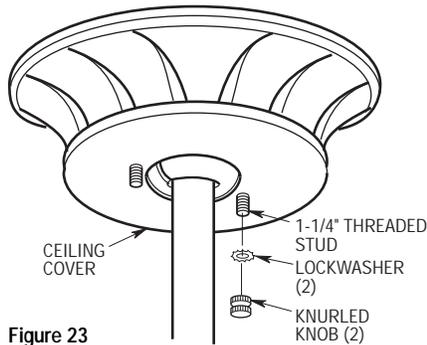

Figure 23
- 7. Slide the receiver up and over the hanger bracket. Press the receiver against the ceiling, then slide the ceiling cover up to the threaded studs and turn until the studs protrude through the holes in the ceiling cover (Figure 23).
- 8. Secure the ceiling cover in place by sliding lockwashers (supplied) over the threaded studs and installing the two knurled knobs (supplied) (Figure 23). Tighten the knurled knobs securely until the ceiling cover fits snugly against the ceiling.